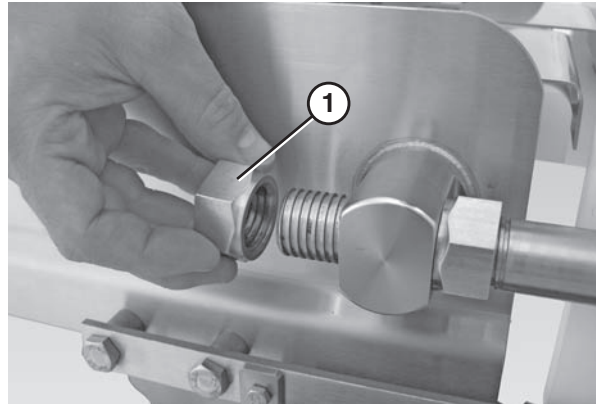

Figure 82
3. Remove the back nuts (Figure 82, item 1) on both discharge nose bar shafts.